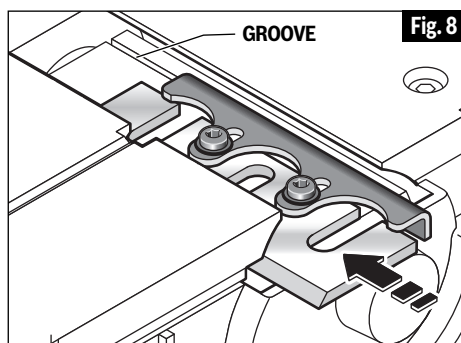

Fig. 8
1. To install the blades, carefully slide the blade/retainer assembly sideways to over one of the two clamping areas on the blade drum. The retainer must engage in the groove. (Fig. 8)